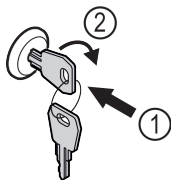

Fig. 94
- Insert key Fig. 94 (1).
- Turn key clockwise by 90° Fig. 94 (2).